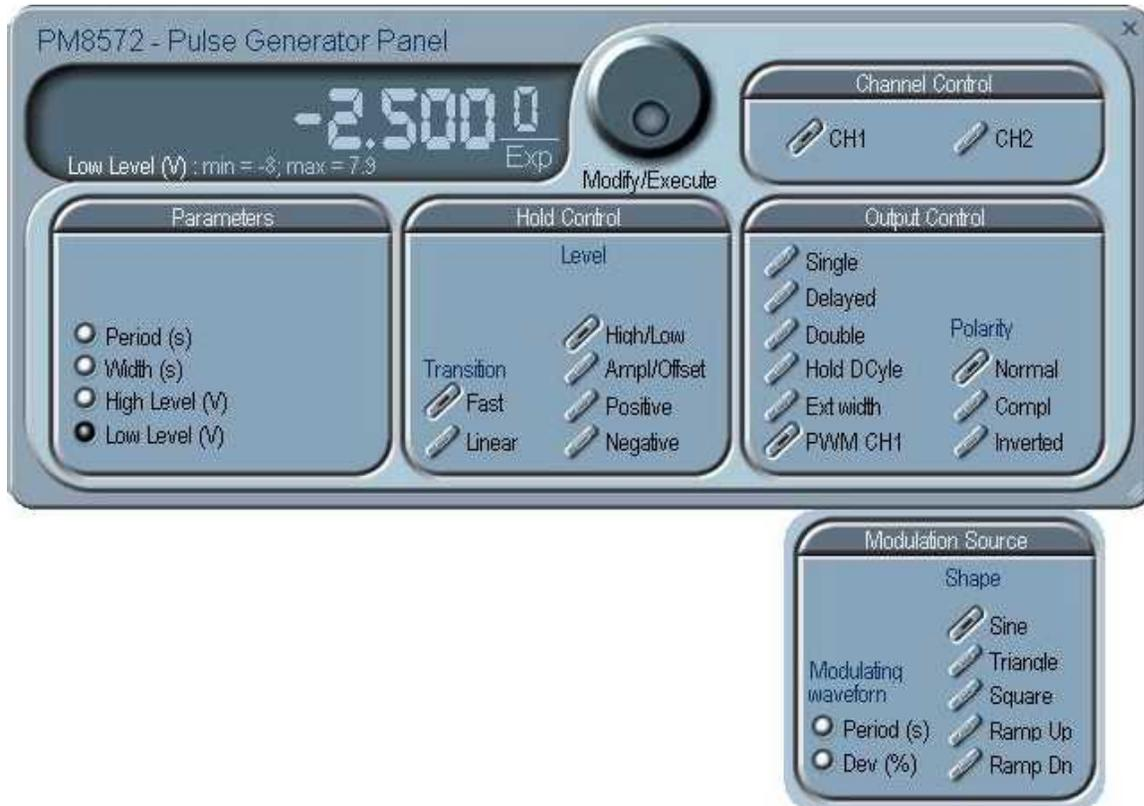

Figure 4-8, PWM Control Parameters
**PWM CH1** – the pulse width modulation function is another special case of the pulse generator output. In this mode, the pulse width is modulated by a built in signal that has known properties and timing characteristics. When you select the pulse width modulation mode, the panel, as shown in Figure 4-8 appears, allowing modification of the PWM parameters. Notice that the width parameter has a primary meaning only as it varies with the modulating signal.
Figure 4-8 shows an example of a 5-step sequence of which the first waveform is made of segment 2, which will loop 15 times; segment 4, looping 2 times; segment 1, looping 7 times; segment 2, once and segment 3, looping 4 times. The Adv bits on links 2 and 5 are set to 1 and therefore, external triggers are required for the sequencer to step through these links.